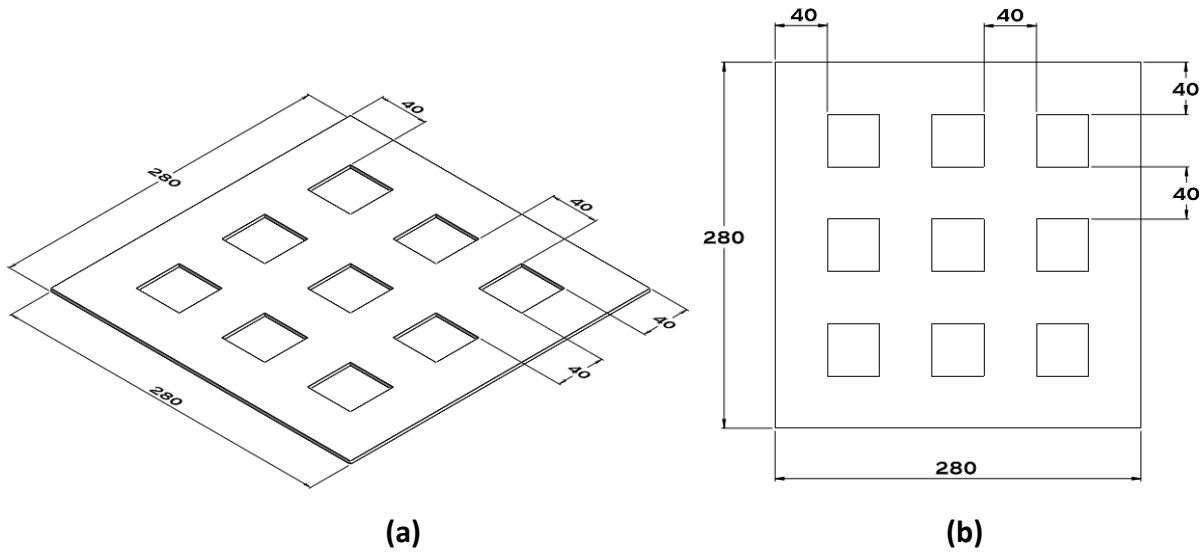

Figure 7: Plate dimensions (a-isometric b-Top view)
2.8 mm thick white plexiglass sheet will be used for the area where the cube blocks will be located on the competition floor. Figure 7 shows the visual containing the flexible sheet dimensions.